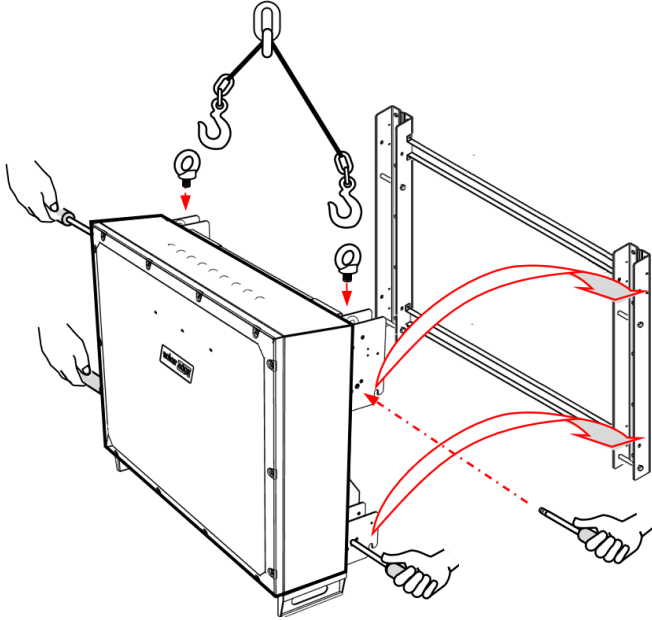

Figure 22: Mounting the inverter before wiring is laid down
1. Anchor the screw-in handle to to any point at the inverter (see *Figure 22*).
4. Align the four hangers on the back inverter enclosure with the mounting bracket and lower the inverter until it rests on the bracket evenly (see *Figure 22*).
1. Anchor the screw-in handle to any point at the inverter (see *Figure 22*).
7. Align the four hangers on the back inverter enclosure with the mounting bracket and lower the inverter until it rests on the bracket evenly (see *Figure 22*).